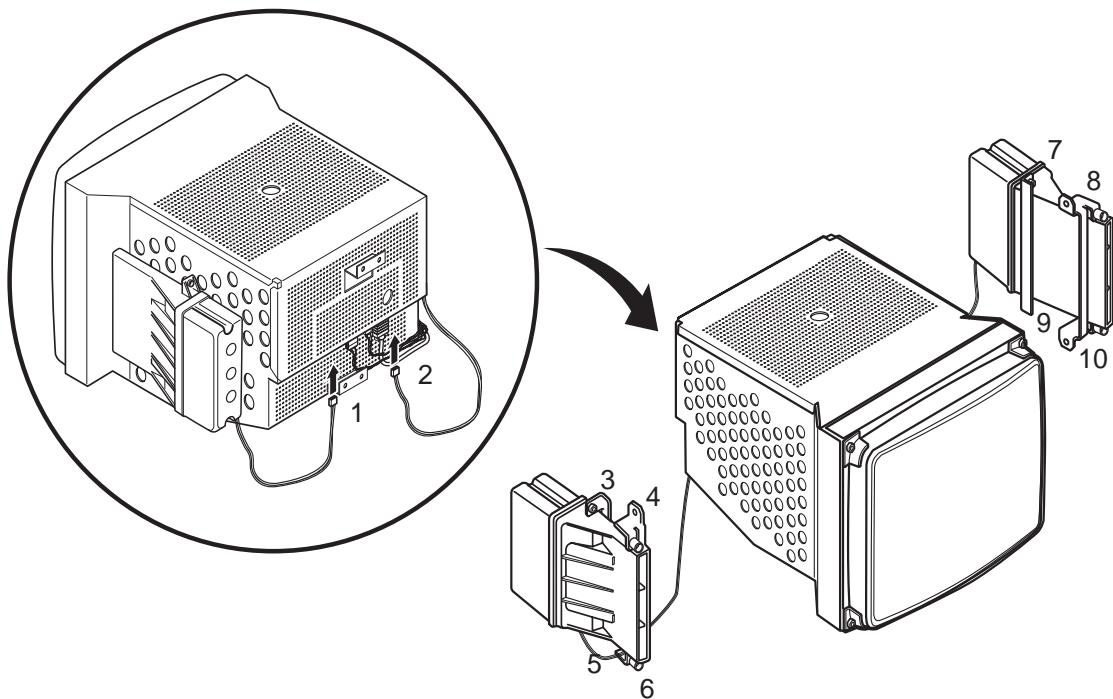

Figure 8-14 Speaker Assy Disassembly
- 2.) Unscrew four screws (3-6) on the right side and (7-10) on the left to remove the speakers. Refer to Figure 8-14.